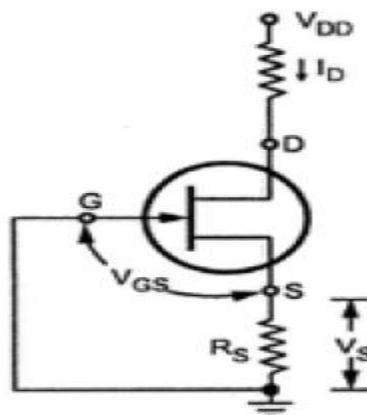

Fig. 4.13 DC equivalent circuit of self bias circuit
- This is illustrated in Fig. 4.13.